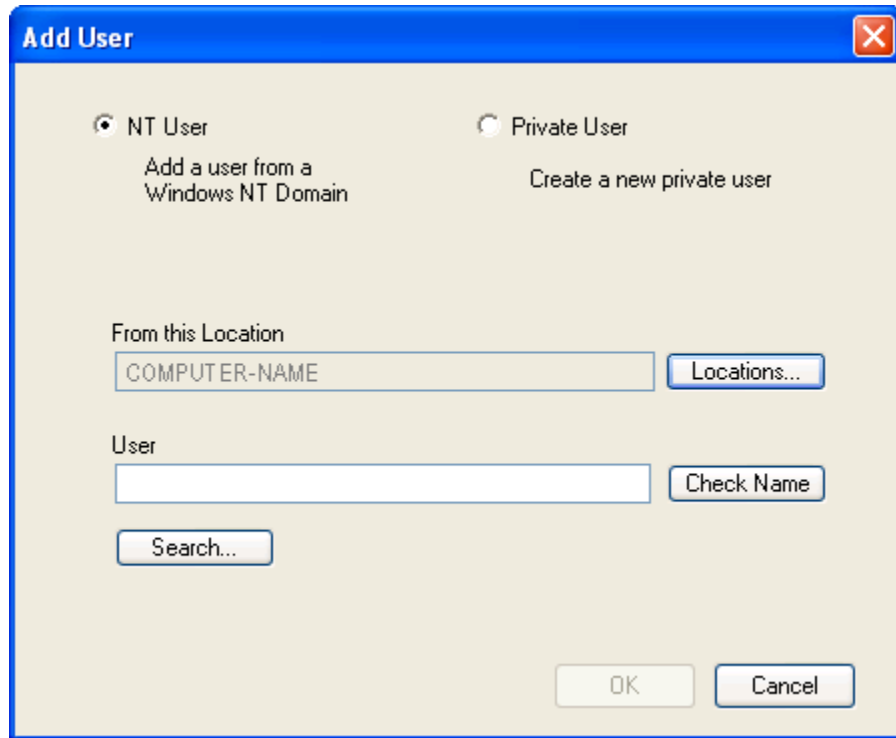

Figure 49 - Add User Window (NT)
2. The **Add User** window (Figure 49) appears. The **NT User** option button is selected by default. This will allow the addition of a user from a Windows NT Domain.
2. The **Add User** window (Figure 49) appears.